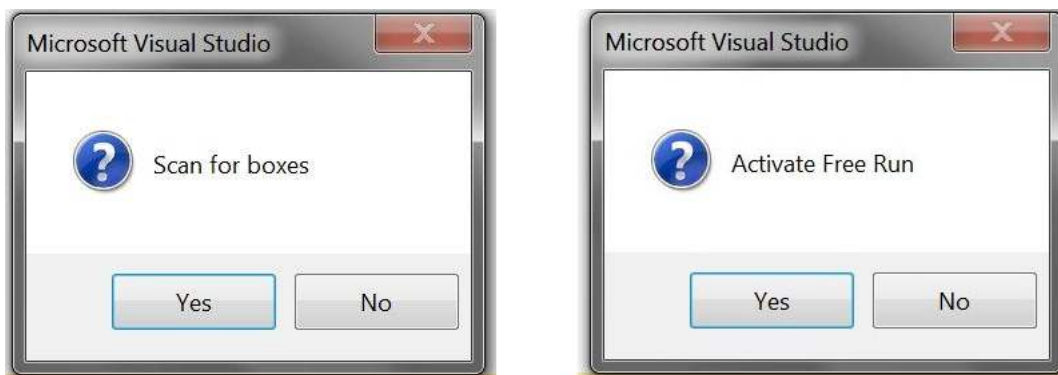

Figure 23. TwinCAT3 Master Scan for Slaves and Free Run Activation
- (b) Click “OK”, then click “Yes” to the following two popups (see Figure 23).